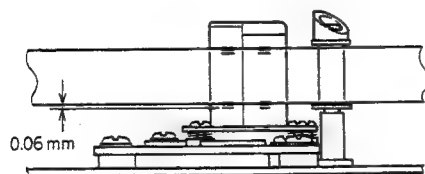

Fig. 2-49 Audio/control head height
9. Carefully and evenly adjust screws (A), (B) and (C) to align the audio/control head height with the tape as shown in Fig. 2-49.